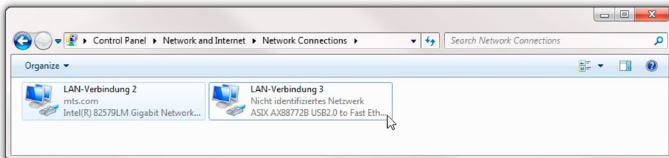

Fig. 46: Network Connections
1. Open the “Control Panel” > “Network and Internet” > “Network Connections” (Fig. 46).